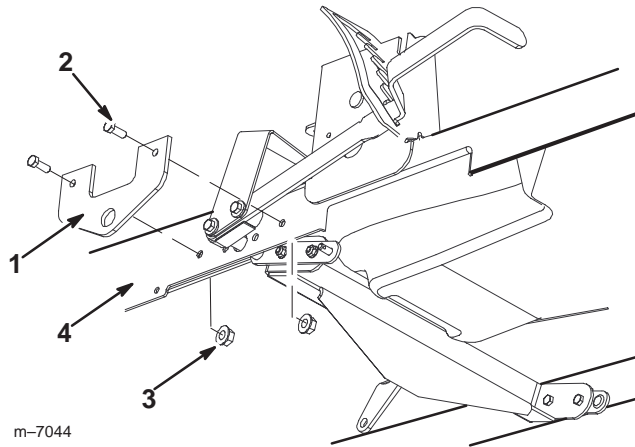

Figure 11
1. Attach a side plate to the right side of the traction unit frame using 2 bolts (3/8 x 1 inch) and 2 flange nuts (3/8 inch) (Fig. 11).